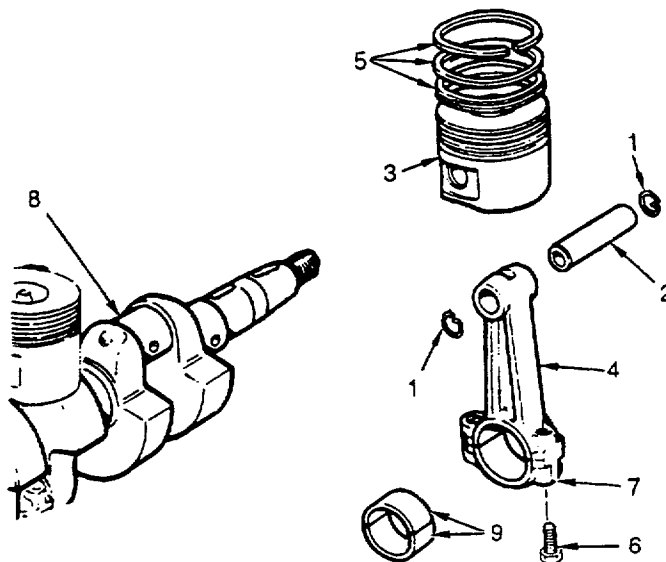

Figure 6-12. Piston and Rings Removal
6.3.12 Remove Piston and Rings. (Refer to figure 6-12.)